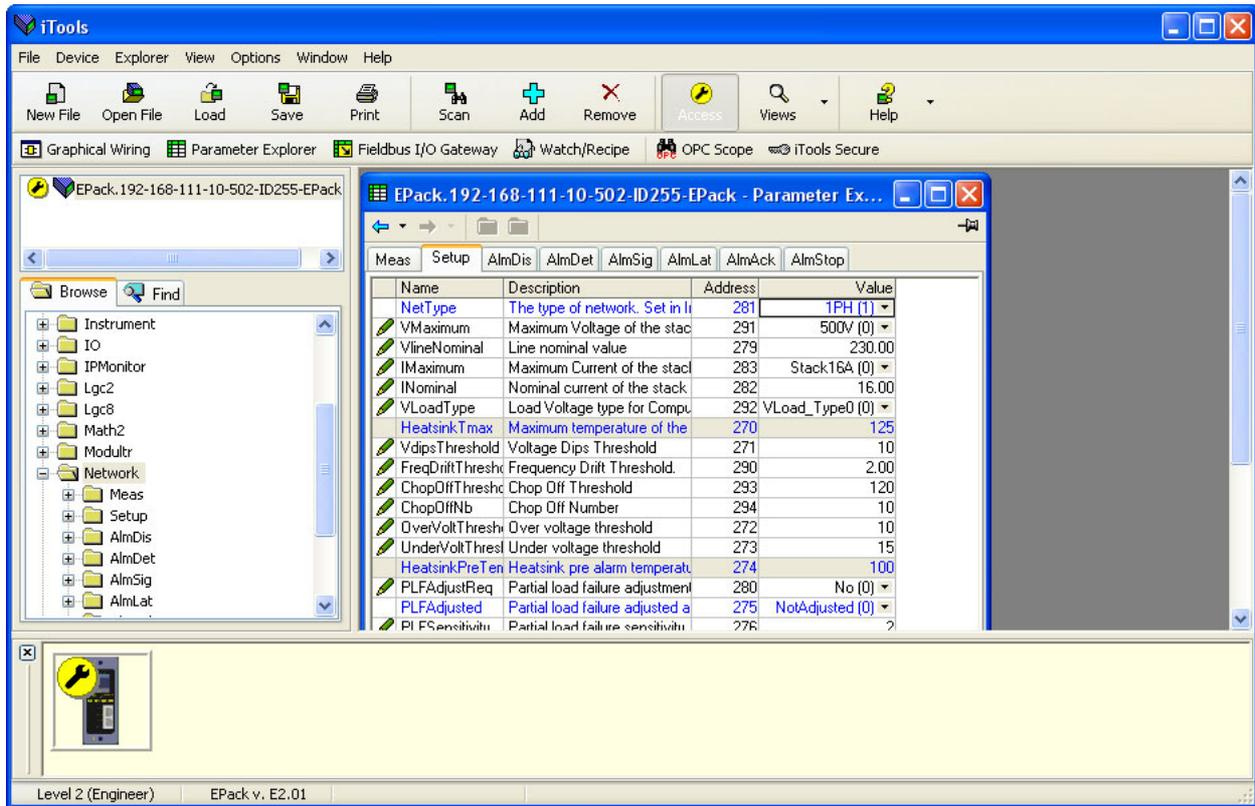
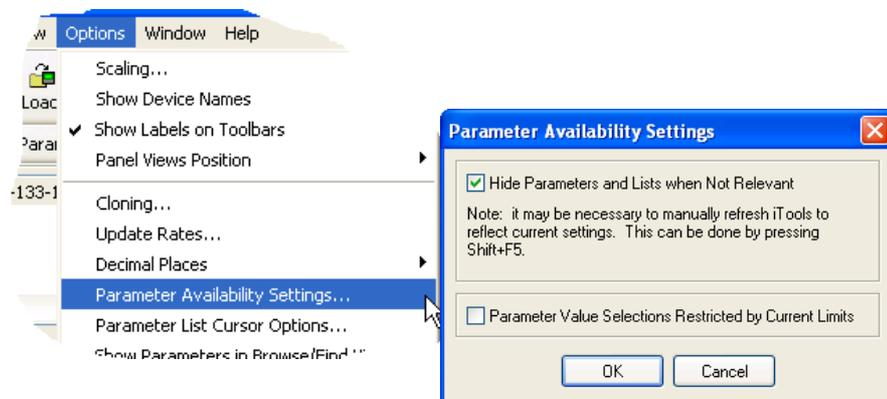

Figure 144 Parameter table example
Figure 147 Show/Hide parameters
In each case the function block parameters appear in the iTools window in tabular form, such as the example in Figure 144.
- Parameters in blue are non-editable (Read only). In the example above all the parameters are read only. Read/write parameters are in black and have a 'pencil' symbol in the 'read/Write access column at the left edge of the table. A number of such items are shown in Figure 144, above.
- Columns. The default explorer window (Figure 144) contains the columns 'Name', 'Description', 'Address' and 'Value'. As can be seen from Figure 147, above, the columns to be displayed can be selected, to a certain extent, using either the 'Explorer' menu or the context menu. 'Limits' have been enabled for the example above.
- Hidden Parameters. By default, iTools hides parameters which are considered irrelevant in the current context. Such hidden parameters can be shown in the table using the 'Parameter availability' settings item of the options menu (Figure 147). Such items are displayed with a shaded background.